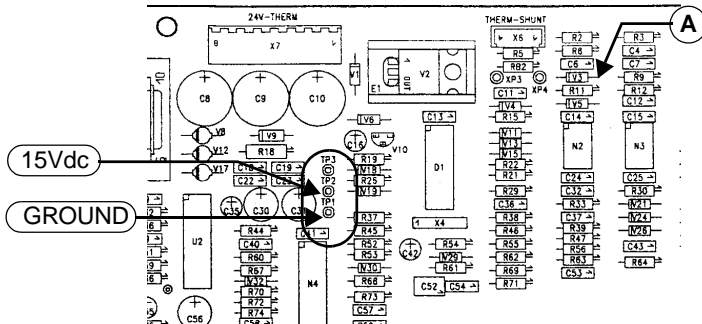

FIG. 6 - RIF. 1 MOD. CE22541
1. Connect a regulated power supply between TP1 (+ 15 Vdc) and TP2 (GND), short-circuit between TP1 and point A (fig. 6); set the oscilloscope on a time base of 5 uS and a range of 0.5 V/Div with probe x10 and verify: